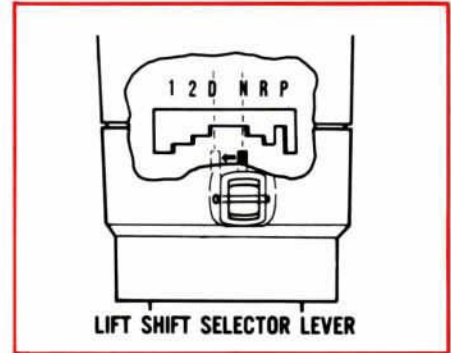

Figure 24—The First Step in Checking the Position of the Selector Lever and Manual Valve.
- To check the position of the selector lever and manual valve, see Figure 24. First place the shift selector in Neutral